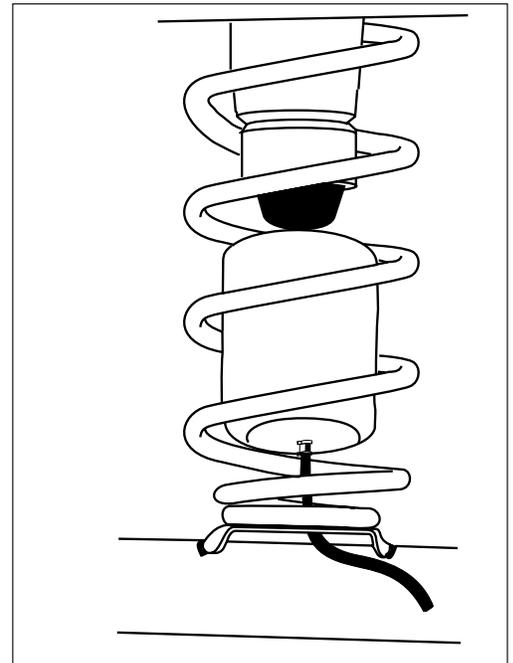

Figure 2
6. Insert the air cylinders into the coil springs with air lines hanging down (Fig. 2).